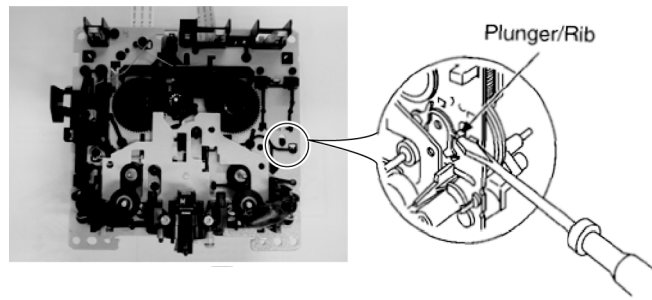

Figure 3
3. Lift up the mechanism unit's plunger/rib with the tip of a negative screwdriver, and operate the unit in the same timing as supplying the power. (Figure 3)